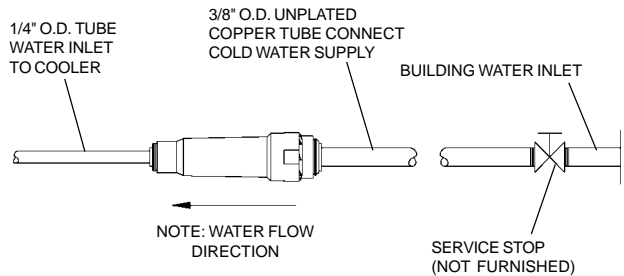

FIG. 1
3. Connect fountain to building supply line with a shut-off valve and install a 3/8" water line between the valve and the fountain. Remove any burrs from outside of water line. Push the tubes straight into the fittings until they reach a positive stop, approximately 3/4" (see figures 1 and 2). **DO NOT SOLDER TUBES INSERTED INTO THE STRAINER AS DAMAGE TO THE O-RINGS MAY RESULT.**